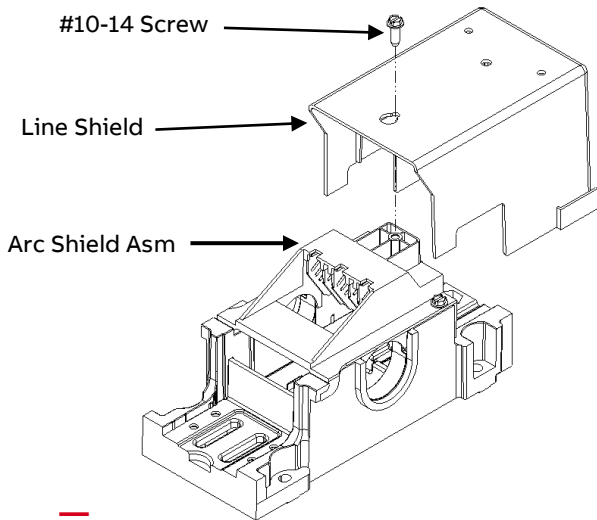

Figure 8. : Line Shield THSHLD5A & THSHLD6A for Safety Switch
Line Shield to be mounted on Arc Shield assembly by new qty (1) #10-14 screw with torque 15 in-lbs as shown in Fig 8.